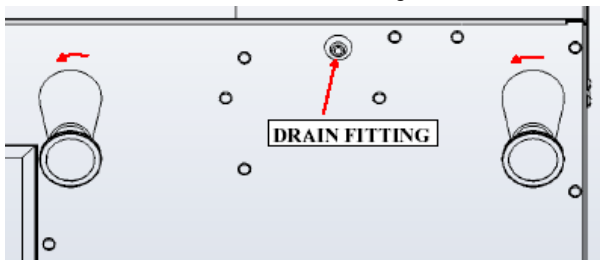

Fig. 1
1. Unscrew the middle and right front legs (Fig. 1) - just enough to allow the mounting bracket to slide under the legs, (~1/8").